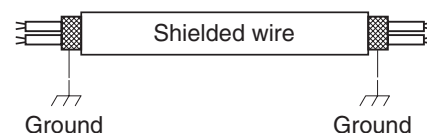

Fig. 2-5
- (5) Use shielded wires for inter-unit control wiring (c) and ground the shield on both sides, otherwise misoperation from noise may occur. (Fig. 2-5)